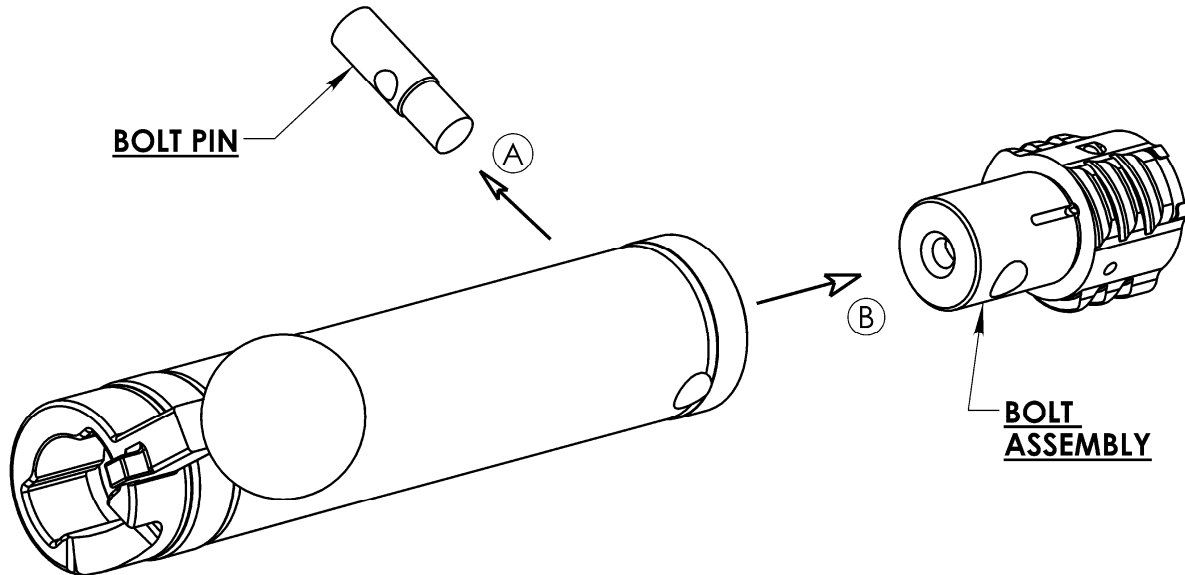

Figure 15.
4. Using a punch or another pointed object push the bolt pin (Figure 15, Step A), out of the bolt tube complete. Note that the bolt pin is one directional meaning it can only be disassembled or assembled from one direction. Next remove the bolt assembly (Figure 15, Step B), from the bolt complete.